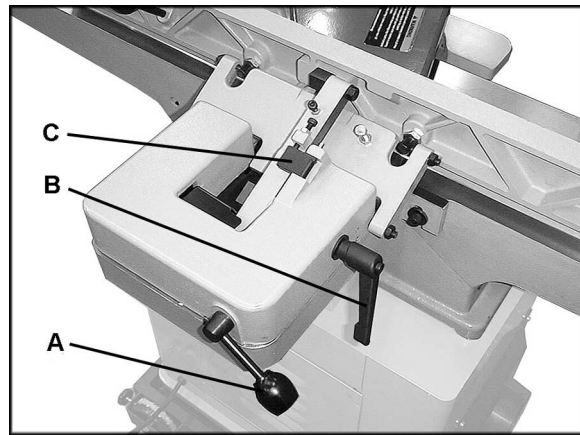

Figure 24
To slide the fence forward or backward on the table, loosen lock handle (A, Figure 24), slide the fence to desired position and tighten lock handle to secure fence. **Lift up on fence when tilting or sliding, to prevent scratching the table.**
NOTE: The handle (A, Figure 24) may be adjusted to a more convenient position by loosening the hex nuts below the casting (see B, Figure 31), turning the handle to the proper position, and retightening the hex nuts.
1. Loosen locking handle (B, Figure 24).
2. Place an angle measuring device on the table and against the fence. Tilt the fence to desired angle and tighten locking handle (B, Figure 24) to secure the angle.
2. Flip the stop block (C, Figure 24) out of the way.
3. Tilt the fence to desired angle and tighten locking handle (B, Figure 24) to secure angle.